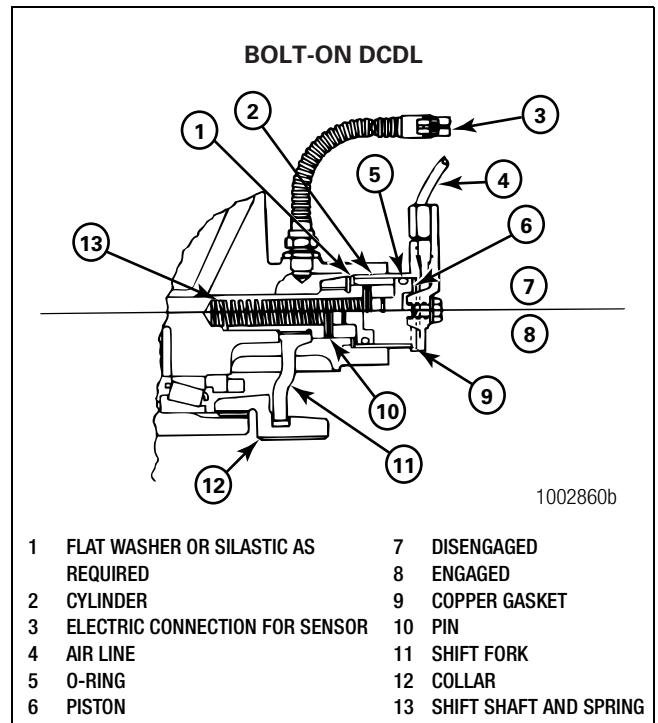
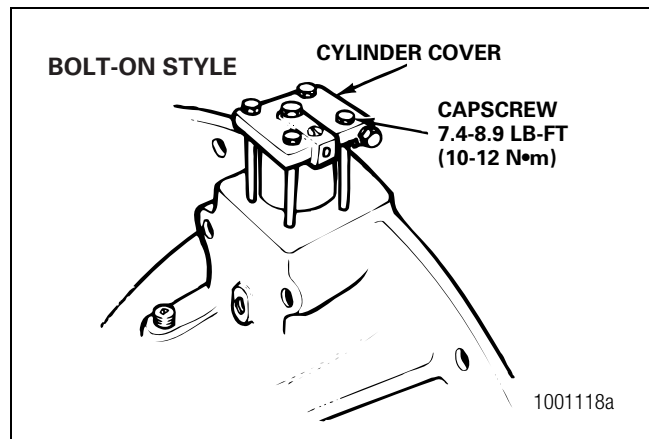

Figure 6.7
Figure 6.13
Install the differential shift assembly after the differential carrier is assembled and the gear and bearing adjustments are completed. Figure 6.7.
10. Install the copper gasket into its bore on the inside of the cylinder cover. Place the cover in position over the cylinder so that the air intake port will point UP when the carrier is installed into the housing. Install the cover with the four attaching capscrews and washers. Tighten the capscrews to 7.4-8.9 lb-ft (10-12 N•m). Figure 6.7 and Figure 6.13.